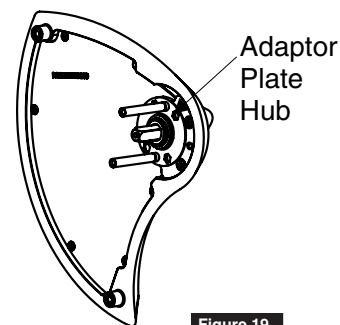

Figure 19
5. Thread adapter plate hub into lever and fully tighten. (Figure 19)